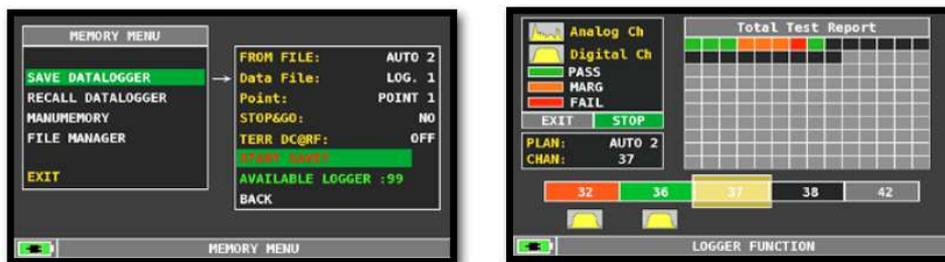

Fig.5 Logger in progress with the corresponding measurements results. At the end of the logger the meter
- **CONTINUOUS:** this makes the logger run without end, looping though the programmes in the CHN file until it is not manually stopped. This allows continuous testing on a set of memorized programmes while making changes to the distribution parameters until the proper results are not obtained (all green squares! Ref. fig. 5).
**RED = FAIL, AMBER = MARGINAL, GREEN = PASS.** Ref. Fig. 5.